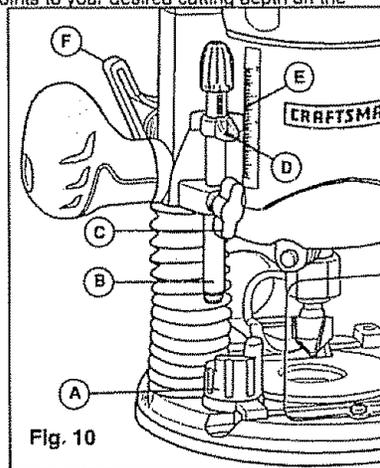

Fig. 10
DEPTH-STOP ROD AND DEPTH-STOP TURRET (Figs. 10 and 11)
- 2 With the cutting bit already installed, lower the plunge action until the cutter bit makes contact with the flat, level surface the router is sitting on. Lock the plunge depth locking lever (F). This position is ZERO - "0" from which further depth adjustments can be made.
- 3 To set a desired depth-of-cut, rotate depth-stop turret until the **Lowest step of the turret (A)** is aligned directly under the **Depth-Stop Rod (B)** (see fig. 10)